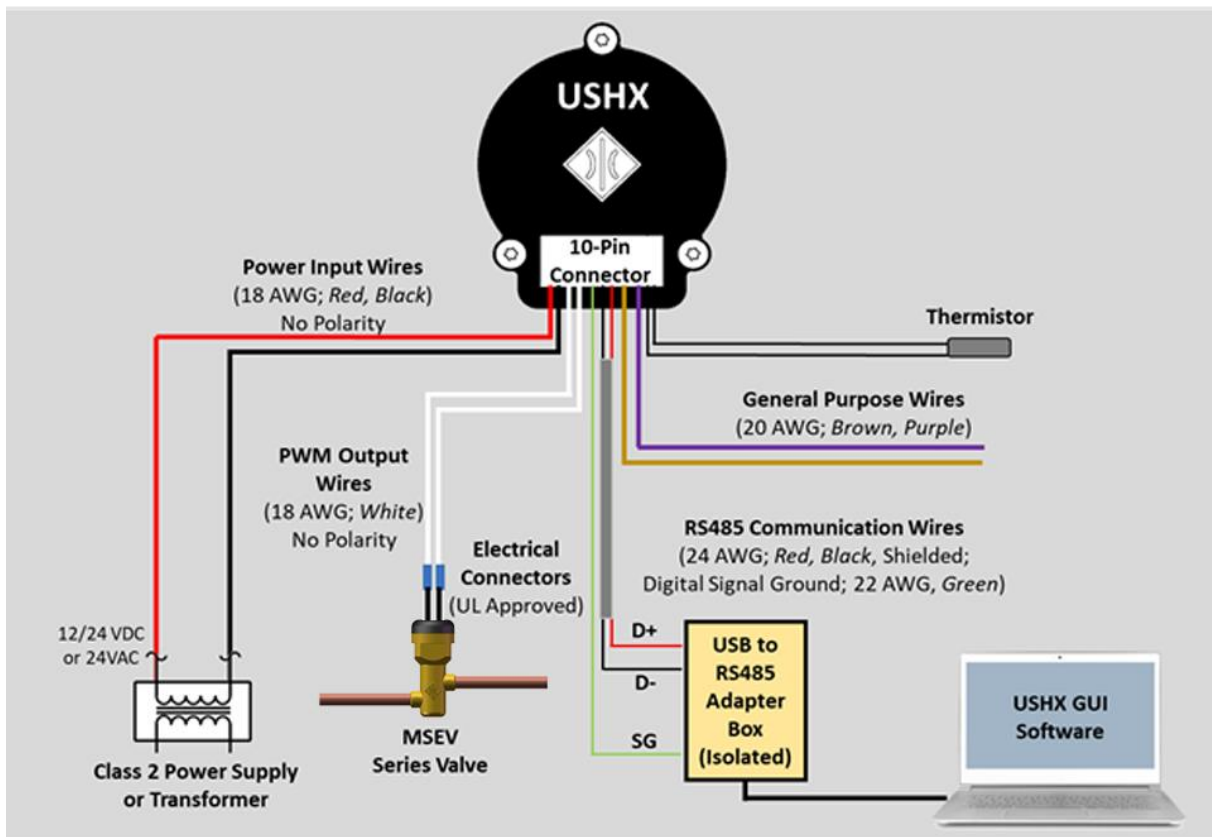

Figure 3-2: Single USHC and MSEV series valve wiring diagram
5. The power input wires (18 AWG red/black wires) on the wiring harness should be connected to the power source as shown below in **Figure 3-2**.
The wiring schemes of the 'Single USHC and MSEV series valve' and 'Single USHS Setup' are the same except that the PWM output wires of the USHS for the 'Single USHS Setup' process should be disconnected, terminated with wire nuts, and wrapped with electrical tape so that they do not form short circuits with each other or any other wires or metal surfaces. As for the 'Single USHC and MSEV series valve Setup' process, the PWM output wires should be connected to the MSEV series valve as shown below in **Figure 3-2**.